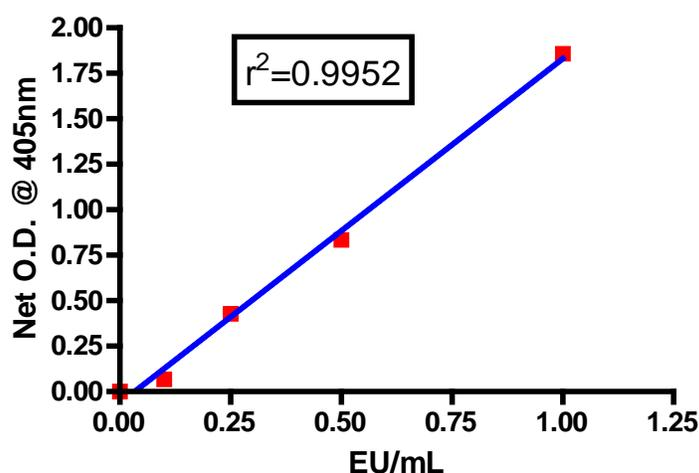

Figure 1. Example standard curve for the quantitation of endotoxin in a chromogenic assay.
10. Use the formulated standard curve to determine the endotoxin concentration of each unknown sample (Figure 1).